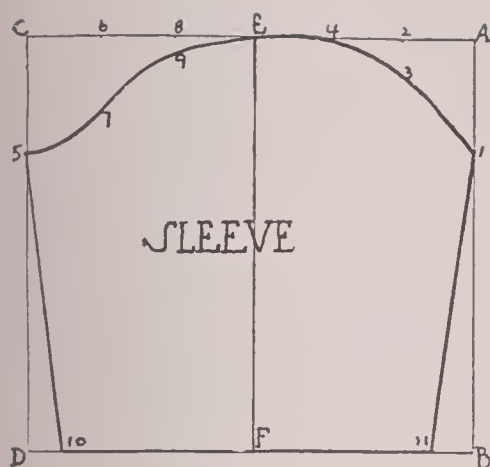
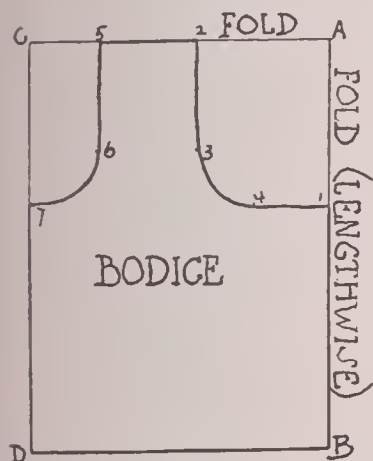

FIG. 2
FIG. 3
**SAFETY POCKETS FOR TRAVELERS.** The first of leather, the second of linen. Cut a strip of kid 14" long and 6" wide. Round the corners. Line with silk, turning edges in. Stitch around lid A. Cut two pockets, B, 2½" square, rounding lower corners, and stitch as shown. Cut pocket lids, C, 1½" deep and 2" wide. Turn lid A on dotted line. Stitch on *ab*, including lids C. Cut strip of green taffeta silk (2). Baste on strip of kid *ghij*. Cut a strip of kid 7" × 6". Line part corresponding to *ghkl* with silk and stitch edges. Adjust this to silk (2) upper edges corresponding. Stitch on *gh*. Cut silk strip 7" × 6" (3). Apply kid strip 6" × 2" to upper part, cut as at *mn*, stitch, and place 3 upon 2, lower ends corresponding. Stitch sides and base, making inside pocket. Cut strip of kid 6" × 6". Line with silk, turn in edges. Stitch across top. Apply to 3, lower edges corresponding. Stitch 1, 2, 3, together. When completed, there is the long pocket, length of Fig. 2; middle pocket, length of Fig. 3, its lid buttoning on narrow kid on *gh*; and outside pocket, with *ghlk* for a lid. Buttons should be brown, and fasteners are ball and socket, glove style, or dress style sewed on. For pocket No. 2 cut a strip of butcher's linen 8" long and 5" wide. Cut off the corners of the lid as shown in the diagram, Fig. 4; turn in the edges on all sides; line with thin linen or Persian lawn; stitch; fold to make a pocket 2½" deep. Ornament the lid with large dots heavily padded. In the center cut out the cloth and fill in with lace stitches for the medallion. Fasten